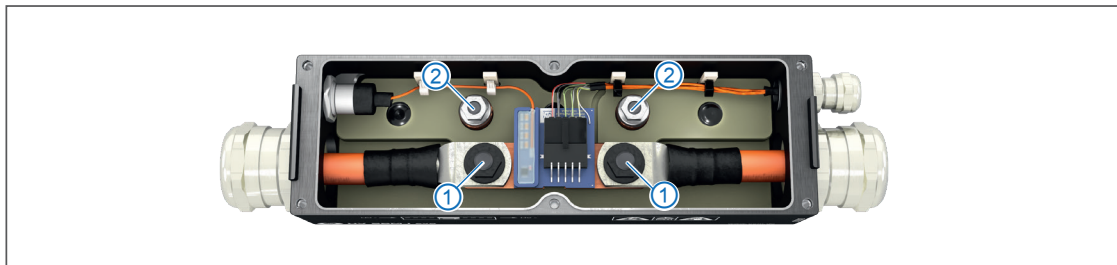
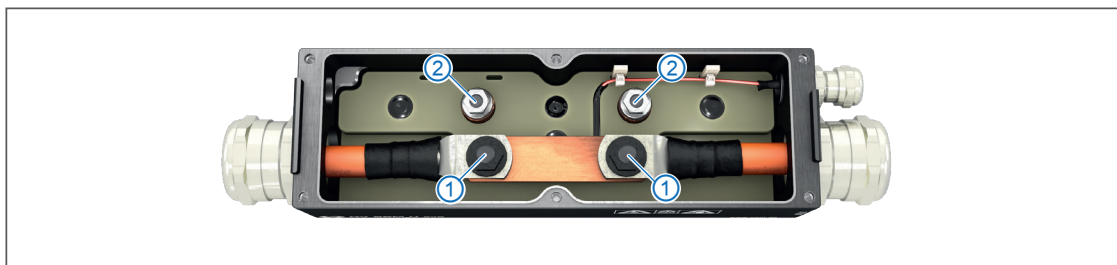
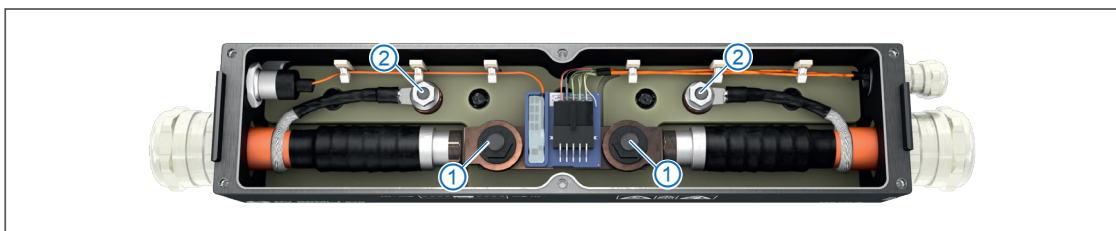
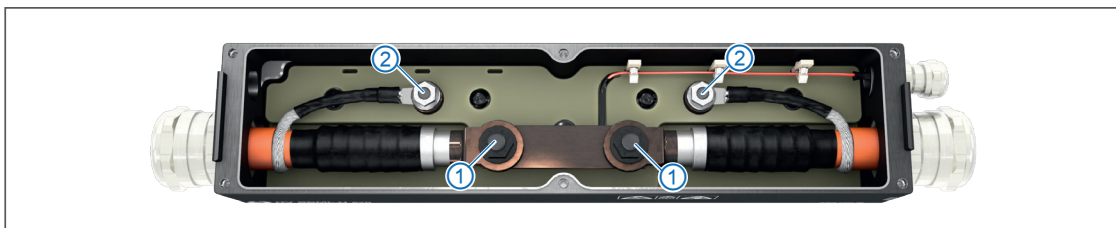

Fig. 5-3: HV SBM_I evo, connections for the HV- power cables and the shielding
Fig. 5-4: HV SBM_U evo: connections for the HV+ power cables and the shielding
Fig. 5-7: HV SBML_I evo, connections for the HV- power cables and the shielding
Fig. 5-8: HV SBML_U evo: connections for the HV+ power cables and the shielding
<p>Please note that the shielding of both HV power cables has to be connected to the module housing via the M6 threaded bolts (Fig. 5-7 / Fig. 5-8, ②).</p>
- ▶ HV SBM_I evo (Fig. 5-3) and HV SBM_U evo (Fig. 5-4) are each equipped with two M8 threaded bolts ① for mounting the power cables HV- and HV+.
- ▶ The HV SBML_I evo and HV SBML_U evo modules (Fig. 5-7 and Fig. 5-8) have larger housings to accommodate longer ring terminals for mounting aluminum HV power cables. The installation of the HV power cables corresponds to the procedure for module types HV SBM_I evo and HV SBM_U evo.
- ▶ In all modules, the braided shields of the HV- and HV+ power cables are connected to the M6 threaded bolts ② with ring terminals.
HV SBML_I evo (Fig. 5-7) and HV SBML_U evo (Fig. 5-8) are designed for connecting HV power cables made of aluminum using longer Al/Cu ring terminals. The module design is basically the same as that of the HV SBM evo modules (Fig. 5-3 and Fig. 5-4).